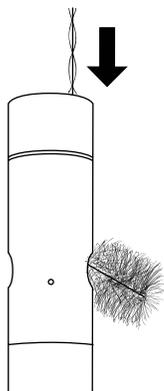

Figure 66 Channel brush
2. Insert the brush at the top of the channels, and sweep the channels 15 to 20 times (Figure 66).